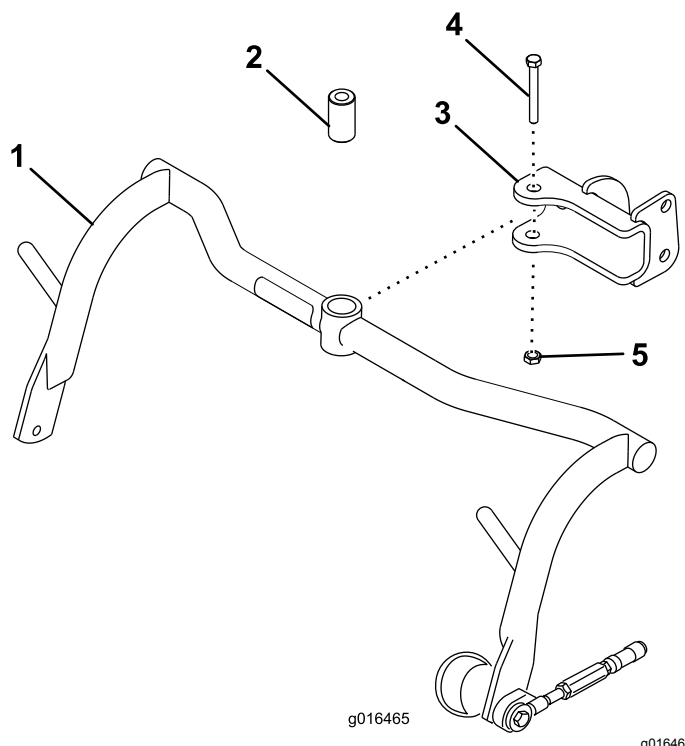

Figure 8
- Mount a carrier frame assembly to each clevis with a spacer, bolt (1/2 x 3-1/4 inch), and locknut (1/2 inch); refer to Figure 8. Torque to 91 to 113 N·m (67 to 83 ft·lb).